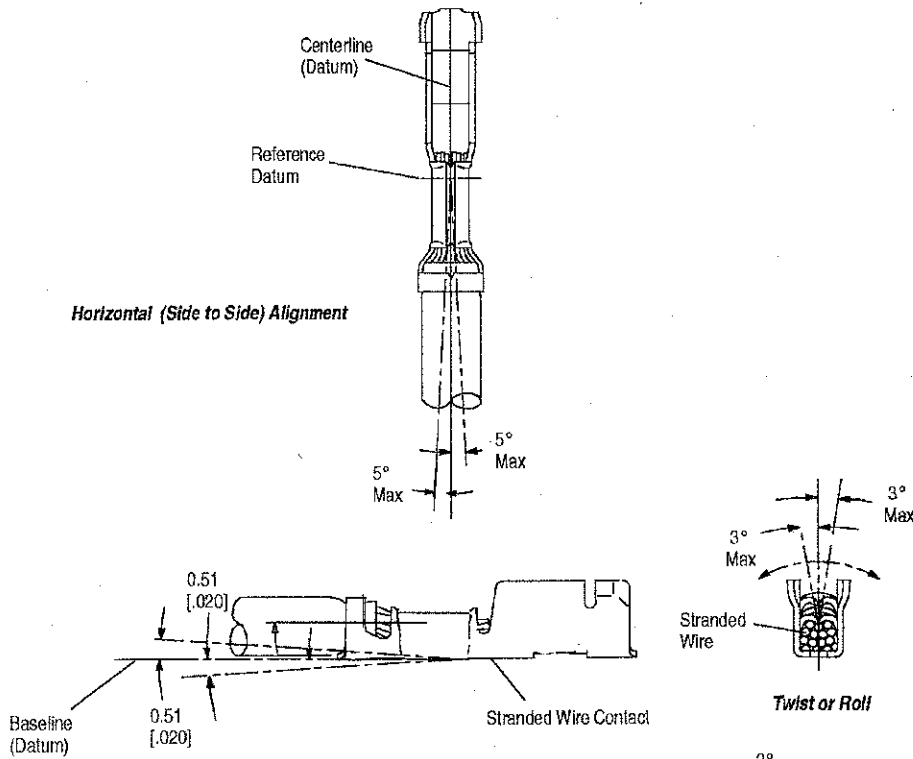

Figure 7
A. Vertical & Horizontal Straightness: Crimped contacts must be straight and aligned within the tolerance shown in Figure 7.
B. Twist or Roll: The Twist or Roll of the crimped portion of the contact in relation to the uncrimped portion of the contact may not exceed the limits shown in Figure 7.